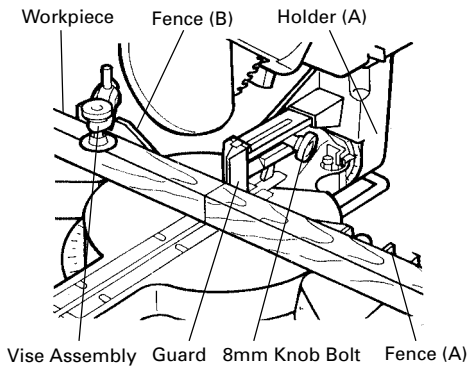

Fig. 8
Holder (A) has a guard (see Fig. 8) into which a groove must be cut. Loosen the 8mm knob bolt to retract the guard slightly. After placing a suitable wooden piece to sit on the fence and the table surfaces, fix it with the vise assembly.